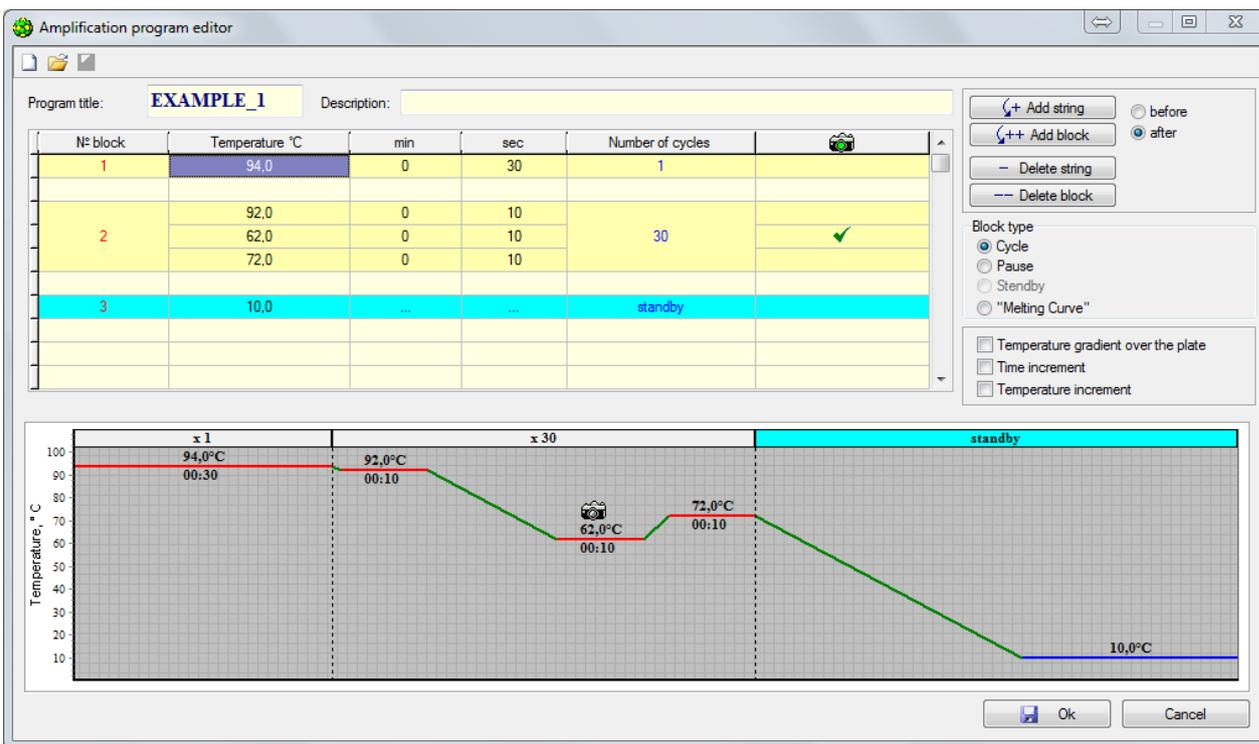

Fig.25 Edit of existing amplification program
3. Edit the existing amplification program by clicking  (Fig.25).